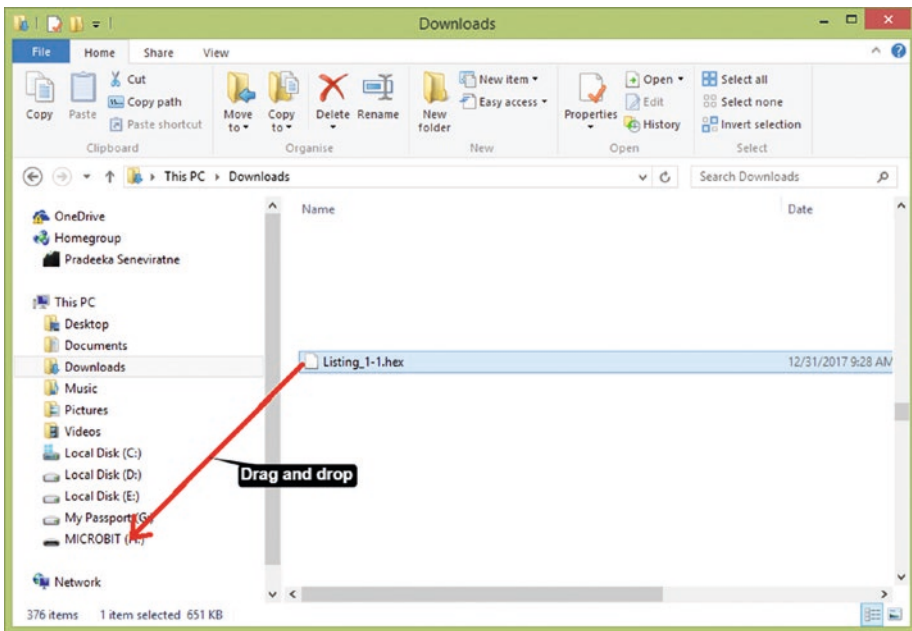

Figure 1-26. Copying a .hex file to the micro:bit
12. Drag and drop (or copy and paste) the downloaded Listing_1-1.hex file from the Downloads folder to the micro:bit drive (see Figure 1-26). The LED on the back of your micro:bit flashes during the transfer, which only takes a few seconds. Once the flashing stops, your code is uploaded.